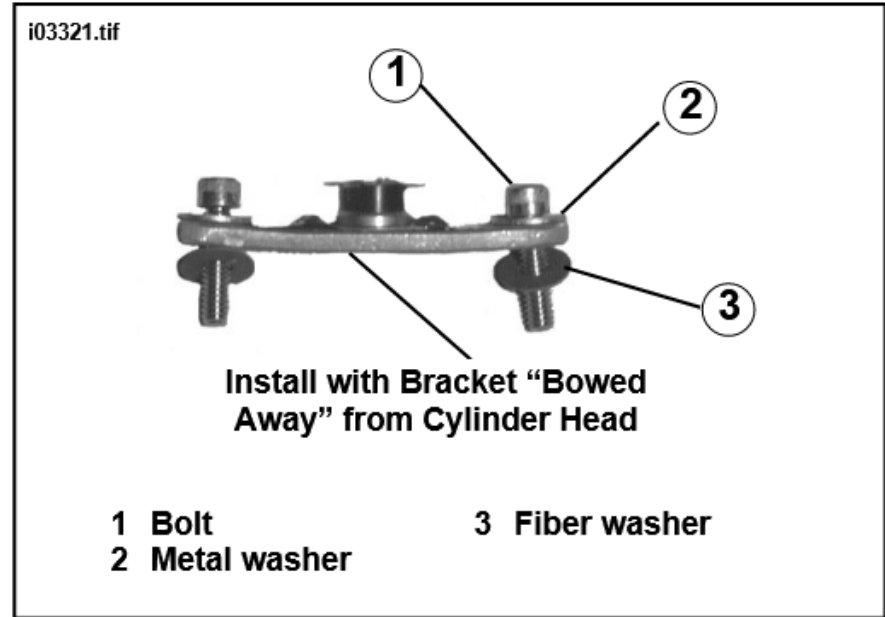

**Figure 4. Install Switch to Thermostat Bracket**
9. See Figure 4. Install thermostat switch (part number Y0052.K) to thermostat bracket (part number R0052.K) using screws (part number C0217.K) and tighten to 12.4-15.0 in-lbs (1.4-1.7 Nm).